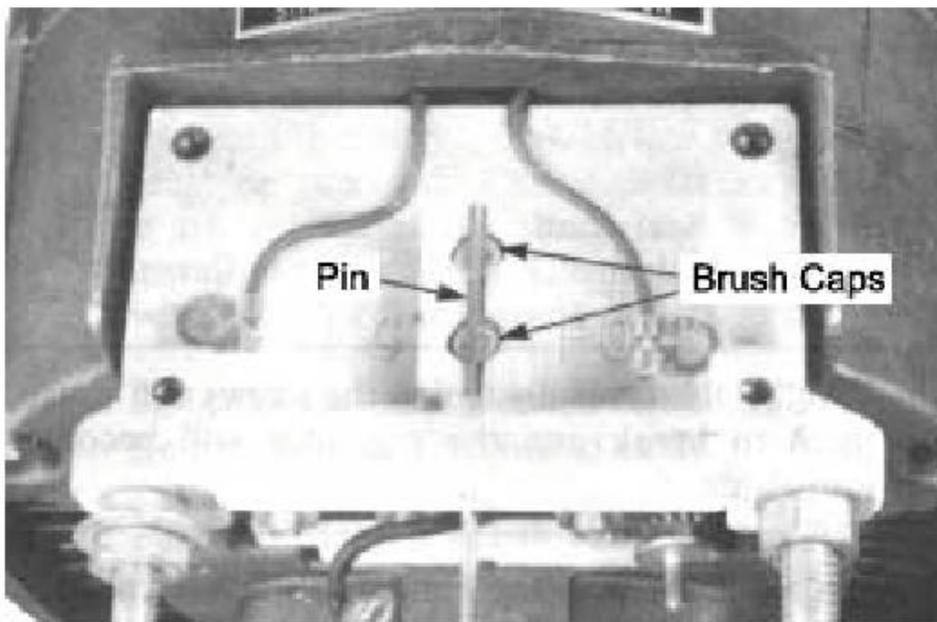

Figure 2
2. Insert a brush in each of the two brush openings. Compress the springs and retain with a pin inserted through the access hole in the regulator holder. A suitable pin can be made of a 1/16" drill or brazing wire (Figure 2).